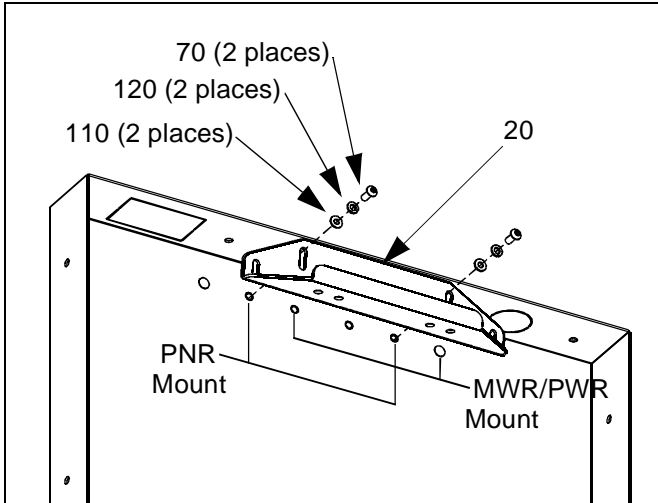

Figure 6: Attach Upper Bracket
- Using key (170), attach upper bracket (20) to housing (10) with screws (70), washers (120), and washers (110) (See Figure 6). Do not tighten screws (70) at this time.
10. Using key (170), securely tighten screws (70) attaching upper bracket (20) to housing (10) (See Figure 6).